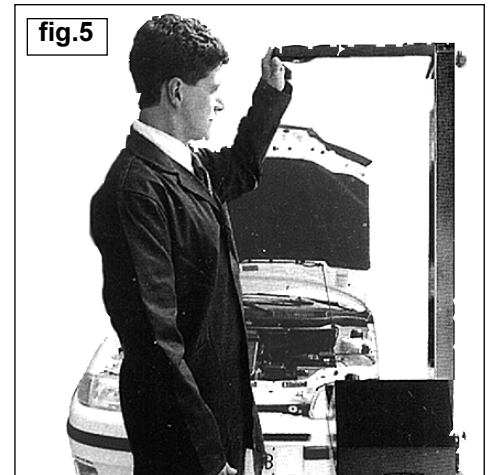

fig.5
5. 1. 1 Use the visor to align with a horizontal, or two symmetrical points on the vehicle (fig.5) i.e. The bonnet lip or the bottom of the windscreen.